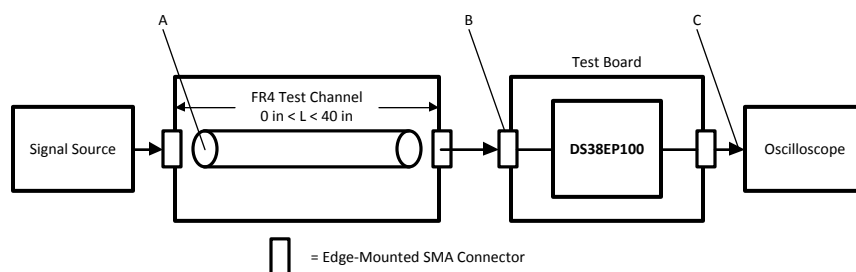

Figure 1. Transient Test Setup Diagram
- (1) The Electrical Characteristics tables list ensured specifications under the listed Recommended Operating Conditions except as otherwise modified or specified by the Electrical Characteristics Conditions and/or Notes. Typical specifications are estimations only and are not ensured.
- (2) Typical values represent most likely parametric norms, TA = +25 degC, and at the Recommended Operating Conditions at the time of product characterization and are not ensured.
- (3) Differential signal to Equalizer, measured at the input to a transmission line, see point A of Figure 1. The transmission line is Z₀ = 100Ω, 6-mil, microstrip in FR4 material.
- (4) Deterministic jitter is measured at the differential outputs (point C of Figure 1), minus the deterministic jitter before the test channel (point A of Figure 1). Test pattern: PRBS- 7 .
- (5) Specification is ensured by characterization and is not tested in production.